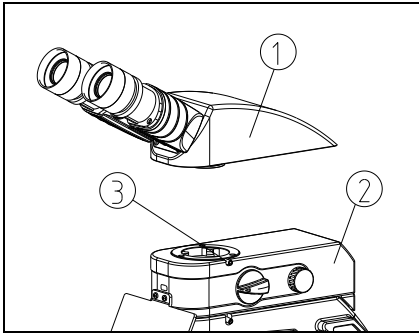

Fig 33
3. Put the binocular/ trinocular Head ① on the LED fluorescence illuminator ②, and fix it with the lock screw ③ by the hexagon spanner. (See Fig. 33)